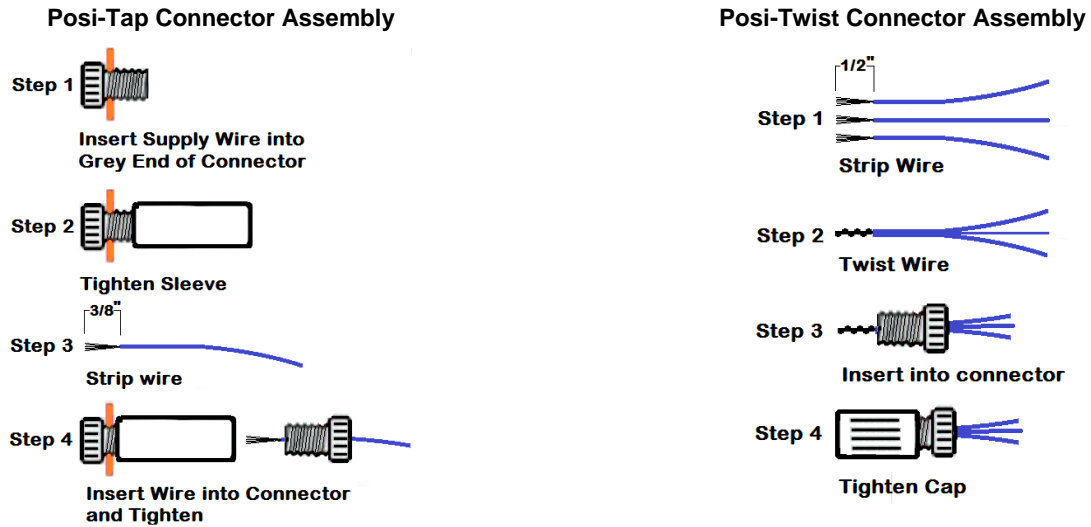

Figure 9
6. Connect one wire from the nitrous solenoid together with the large **blue** wire from the mini 2-stage progressive controller, using one of the provided Posi-Twist connectors (see **Figure 9**).
7. Connect one wire from the fuel solenoid together with the large **red** wire from the mini 2-stage progressive controller, using one of the provided Posi-Twist connectors (see **Figure 9**).
9. Connect the red relay wire to the white wire (same wire as described in step 4 above) between the master arming switch ("Load") and the 2-stage mini controller using one of the provided Posi-Tap connectors (see **Figure 9**). This tap can be installed close to the Mini 2-Stage Controller in the engine bay.
12. Connect the "Earth" terminal on the master arming switch (supplied black wire from step 2) to the digital ground wire coming from the 2-stage mini controller (small black wire) using one of the provided Posi-Tap connectors (see **Figure 9**).